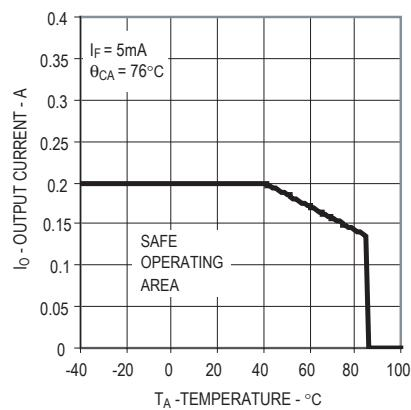
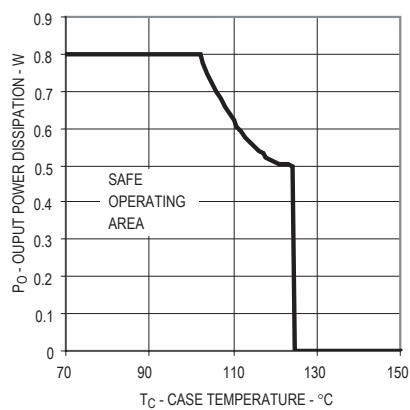

Figure 1. Maximum Average Output Current Rating vs Ambient Temperature
Figure 2. Output Power Derating vs Case Temperature
- For derating, refer to Figure 1 and 2.
Derating curves are shown in Figures 1 and 2. Figure 1 specifies the maximum average output current allowable for a given ambient temperature. Figure 2 specifies the output power dissipation allowable for a given case temperature. Above a case temperature $102^{\circ}C$, the maximum allowable output current and power dissipation are related by the expression $R_{ss}=Po(max)/(I_o(max))^2$ from which R_{ss} can be calculated. Staying within the safe area assures that the steady state MOSFET junction temperature remains less than $150^{\circ}C$.